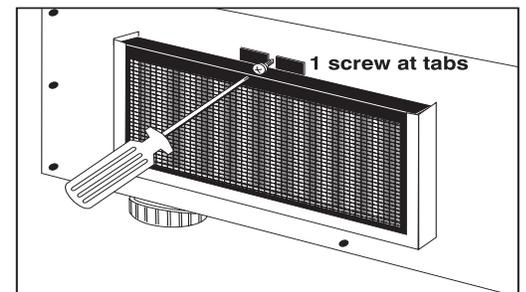

Figure 4.8. Secure grille-with-filter
- Secure single screw above the filter. The grille should enclose the filter. See Figure 4.8.